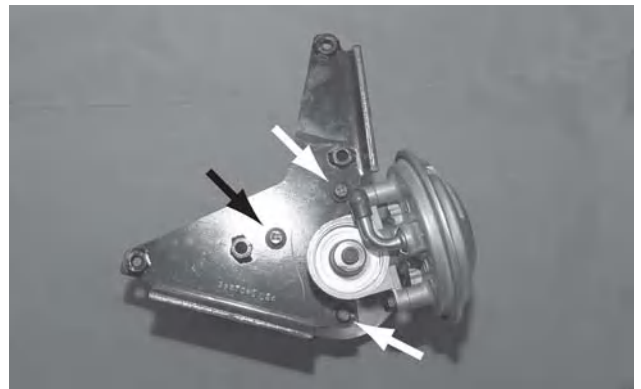

Fig. 11b
- Attach the vacuum pump to the mounting bracket using the three M8 x 30 mm capscrews supplied in the vacuum kit. (See figure 11b)